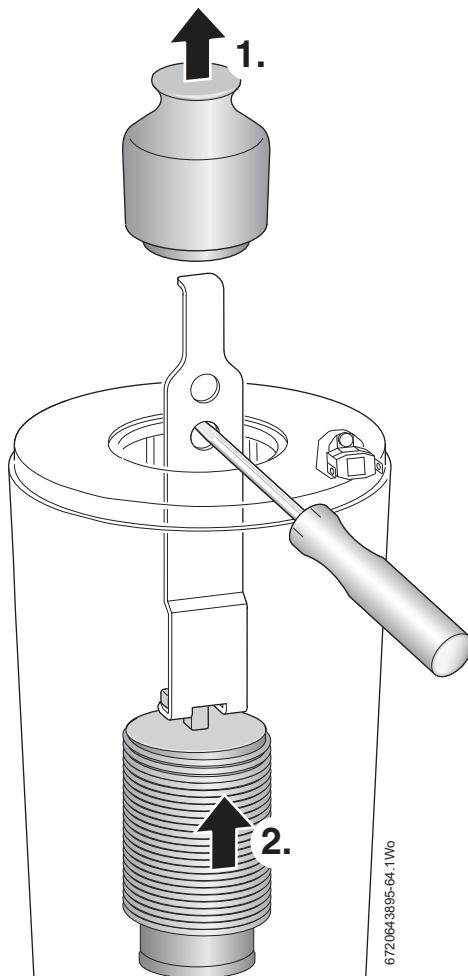

Fig. 65 Baffle removal
1. Refer to figure 65 and remove top baffle.
If the lower baffle is stuck, it may be necessary to use the "Baffle removal tool" from the heat exchanger cleaning kit - 7 716 192 312, as shown in figure 65.
The baffles (1) and (2) must be refitted into the heat exchanger in the order shown in figure 65. Failure to do so may result in damage to the boiler.